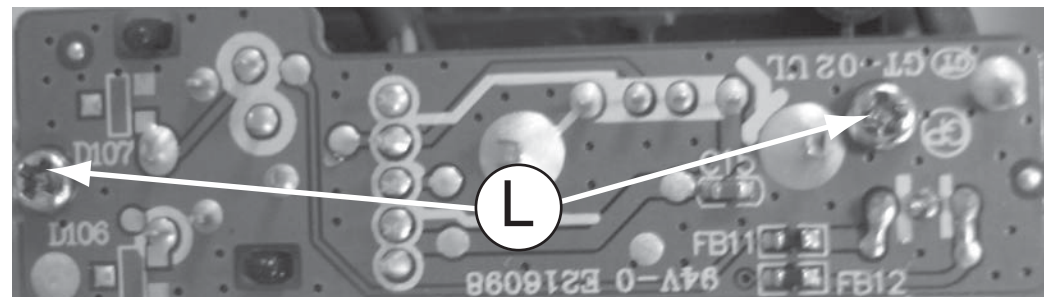

Figure 14
- 1) Loosen 2 screws "L" on the top of MP3 Board as shown in figure 14.